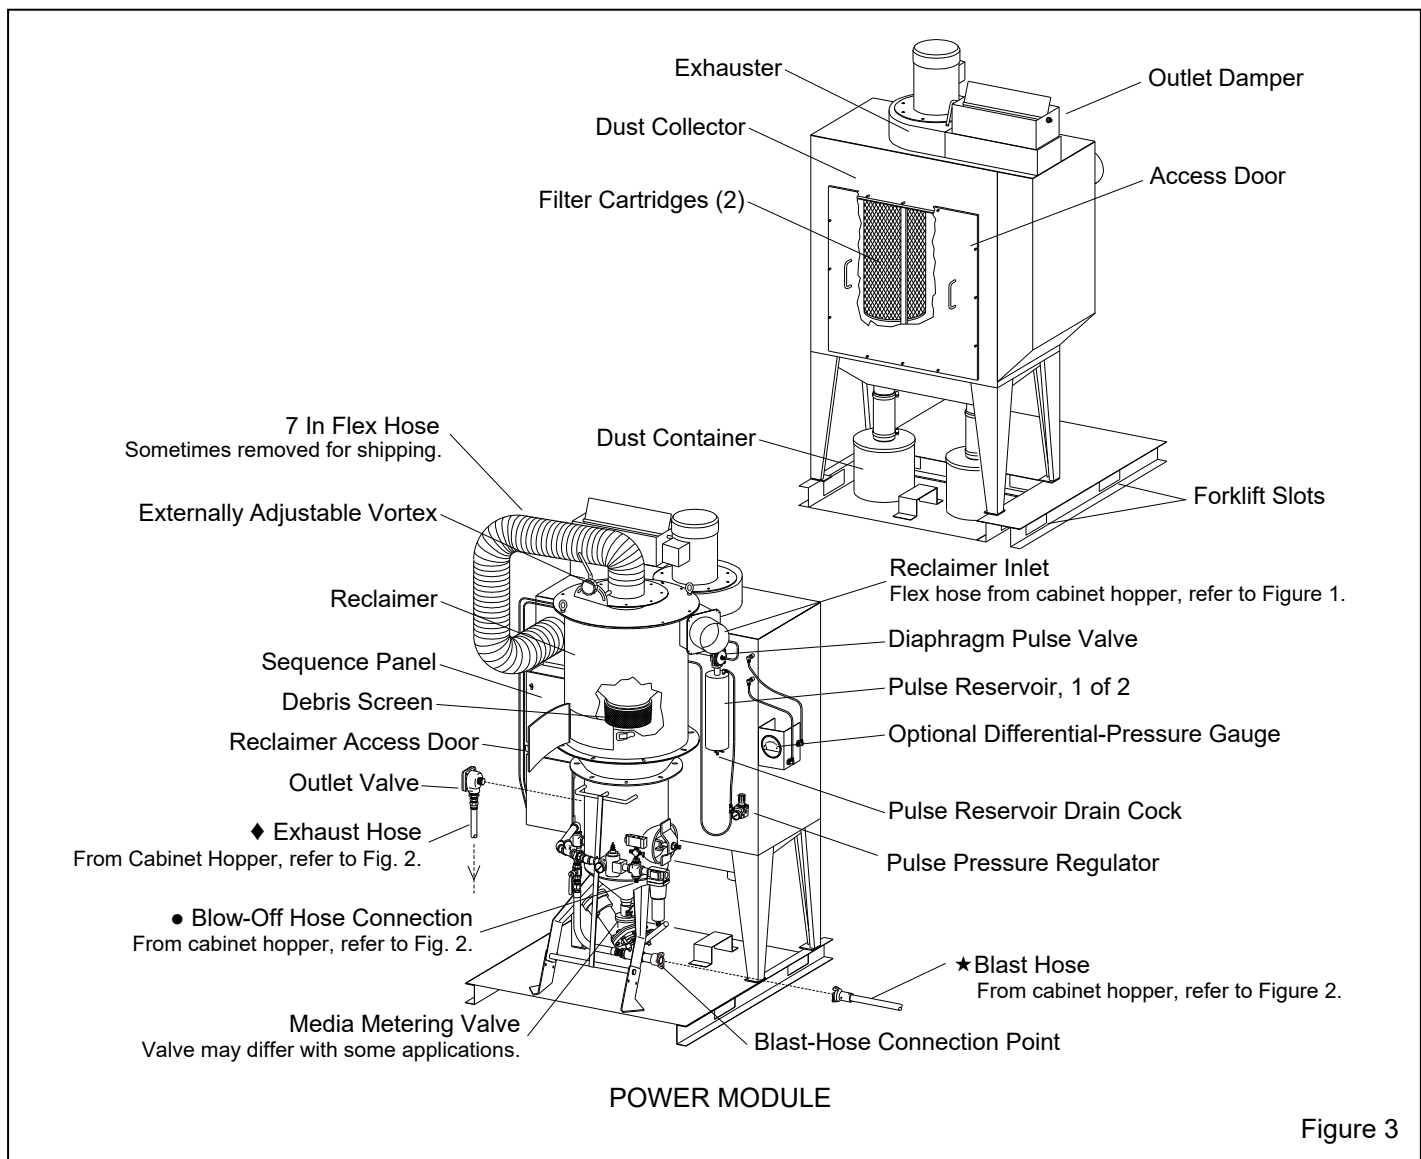

Figure 3
**1.4.1** Refer to Figure 1 for the general arrangement of the cabinet and power module. Components of the cabinet assembly are shown in Figure 2 and components of the power module are in Figure 3. The Pulsar cabinet encloses the blasting environment to provide efficient blasting while maintaining a clean surrounding work area. Production rates are influenced by size of air jet and nozzle, compressor output, working pressure, type and size of media, and angle and distance of the nozzle from the blast surface. The Pulsar IX-P pressure cabinet consists of two major components.